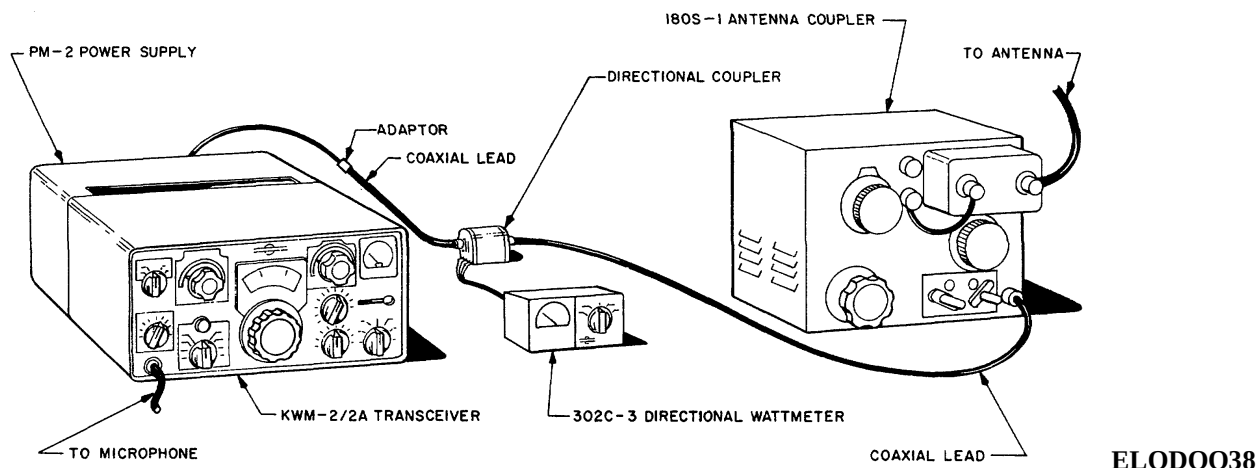

Figure 12-2. CU-2004/U and Collins KWM-2/2A, hookup diagram.
12-3. Installation (fig. 12-2)
a. Connect the Collins KWM-2/2A, 302C 3 directional wattmeter and antenna coupler as shown in figure 12-2. Leave the coaxial lead disconnected from the coupler at this time.